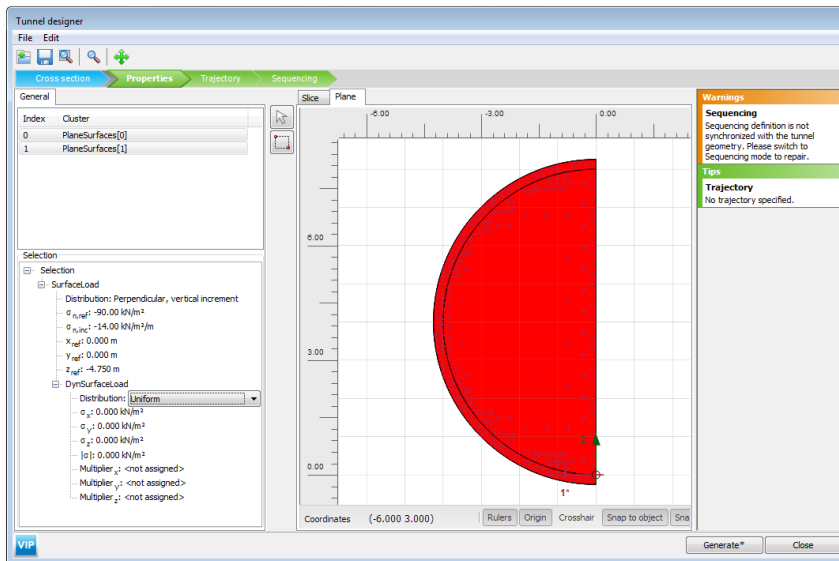

Figure 6.8 *Plane* tabsheet in the *Tunnel designer*
- Set the $\sigma_{n,ref}$ to -90 and $\sigma_{n,inc}$ to -14 and define (0 0 -4.75) as the reference point for the load by assigning the values to x_{ref} , y_{ref} and z_{ref} (Figure 6.8).